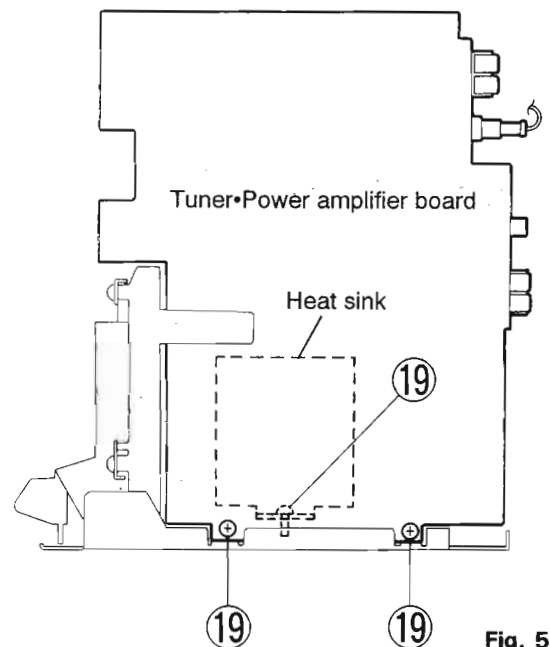

Fig. 5-18
■ How to Remove the Tuner Power Amplifier P.C. board (Refer to Figs. 5-18 and 5-19)
4. Remove the three screws (19) retaining the tuner power amplifier P.C. board.